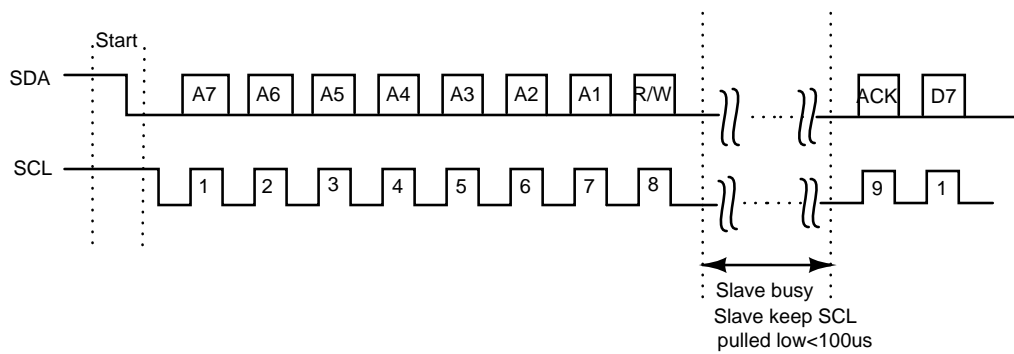

Figure 34: I²C clock stretching example
5. I2C slave can hold off the master in the middle of a transaction using what's called clock stretching (the slave keeps SCL pulled low until it's ready to continue). Refer to figure 34 for a example.